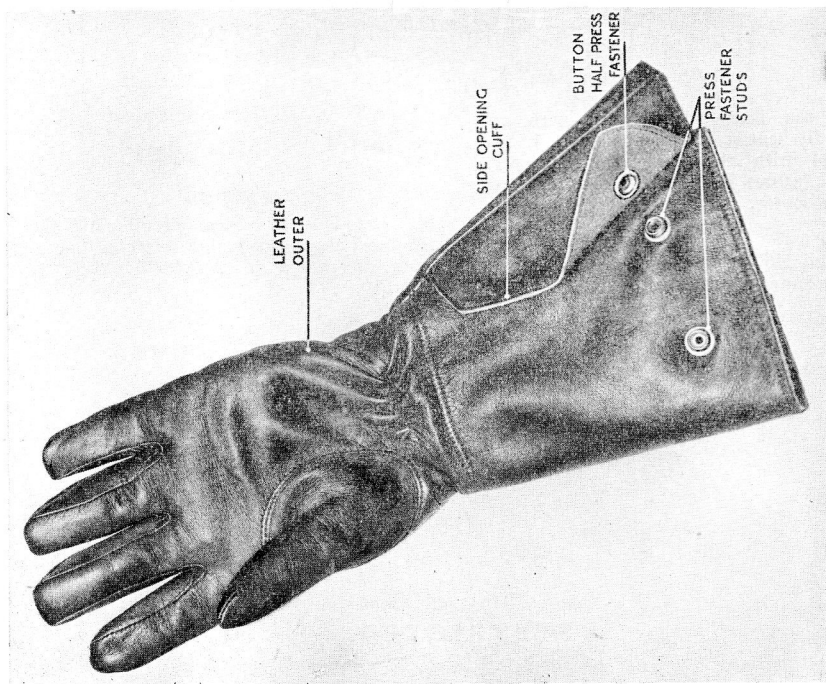

Fig. 7. Glove
13. Each glove (fig. 7 and 8) consists of a leather outer gauntlet with a side-opening